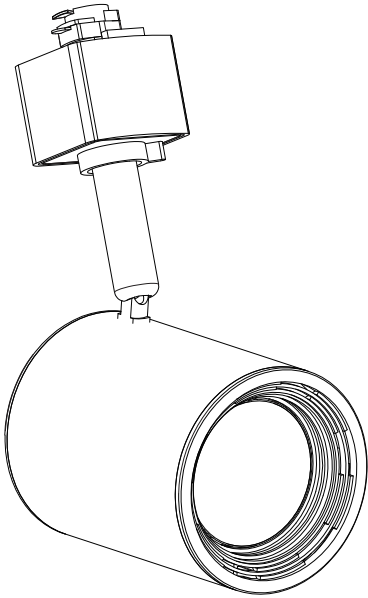

fig. 1
1. Locate the accessory locking channel in the fixture holder ring (fig. 1). Locate the retainer clips on the edge of the accessory (fig. 2). Simply insert the edge of the accessory into the locking channel of the holder until it clicks and is securely fasten.